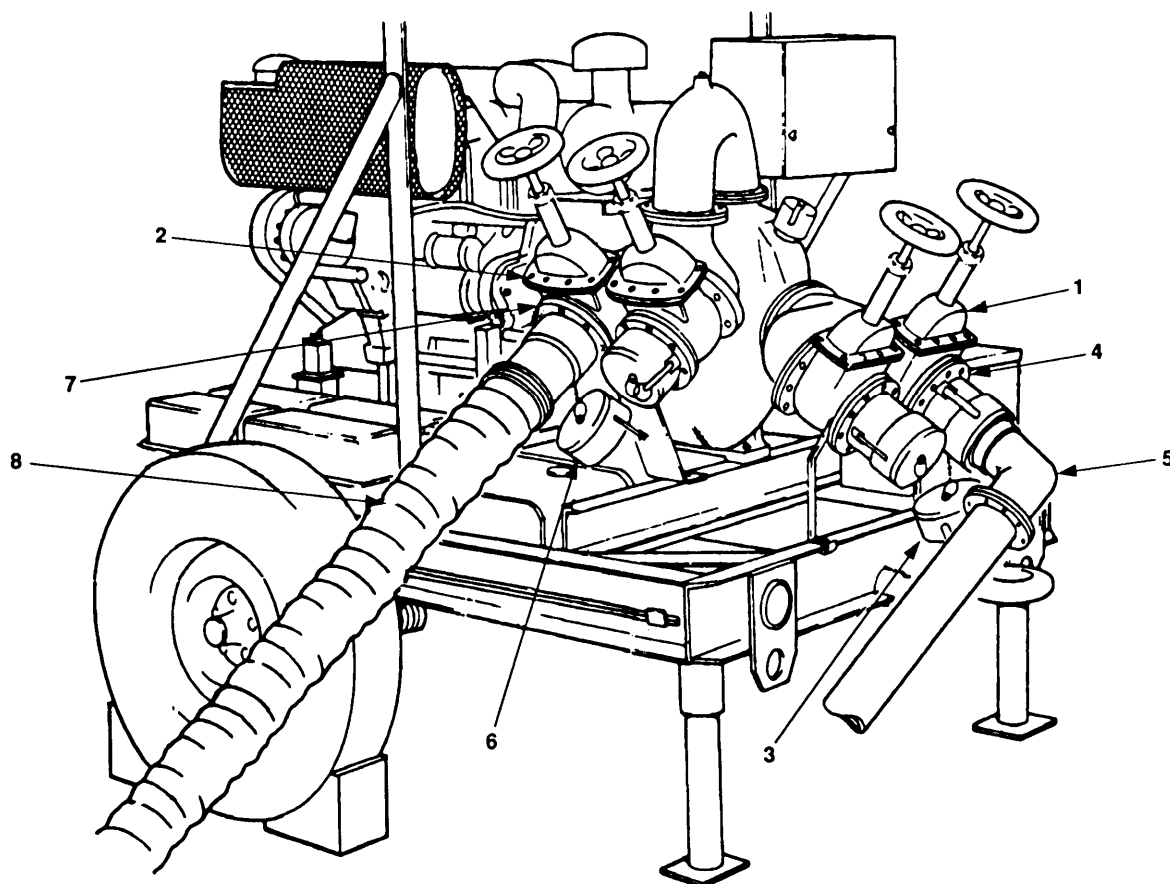

Figure 2-4. Connecting Suction and Discharge Hoses.
- (1) Close suction valves (figure 2-4, 1) and discharge valves (2).
- (2) Release coupling half plug (3) from coupling half (4).
- (3) Connect suction hose (5) to coupling half (4).
- (4) Release coupling half cap (6) from coupling half (7).
- (5) Connect discharge hose (8) to coupling half (7).
- (6) Connect suction hose (5) to upline source.
- (7) Connect discharge hose (8) to downline source.